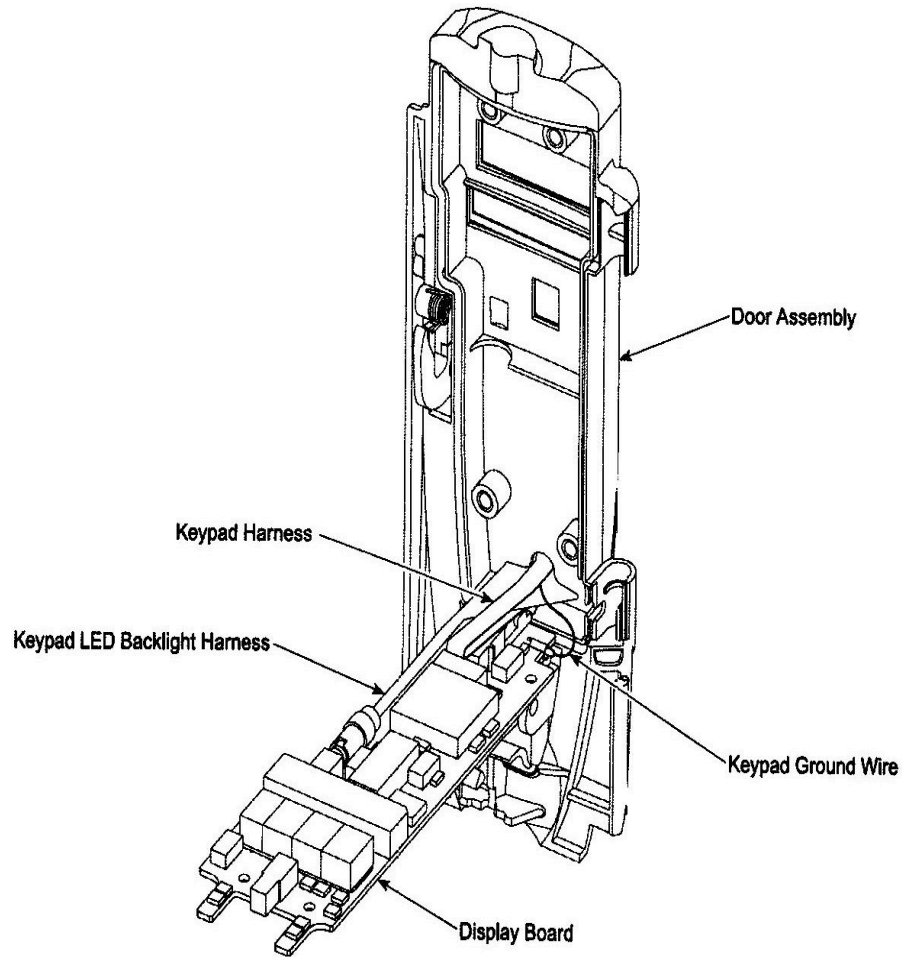

Figure 2
2. Disconnect Keypad Harness from Display Board J2 and Keypad Ground Wire J4. (See Figure 2 below).
4. Disconnect Keypad LED Backlight D8, Keypad Connector J1, and Keypad Ground J3. (See Figure 2 above).
4. Re-connect all cables to Door Display Board Assembly in reverse order and install into new ArduS Door. Try not to crease the keypad ribbon cable. (See Figure 2).